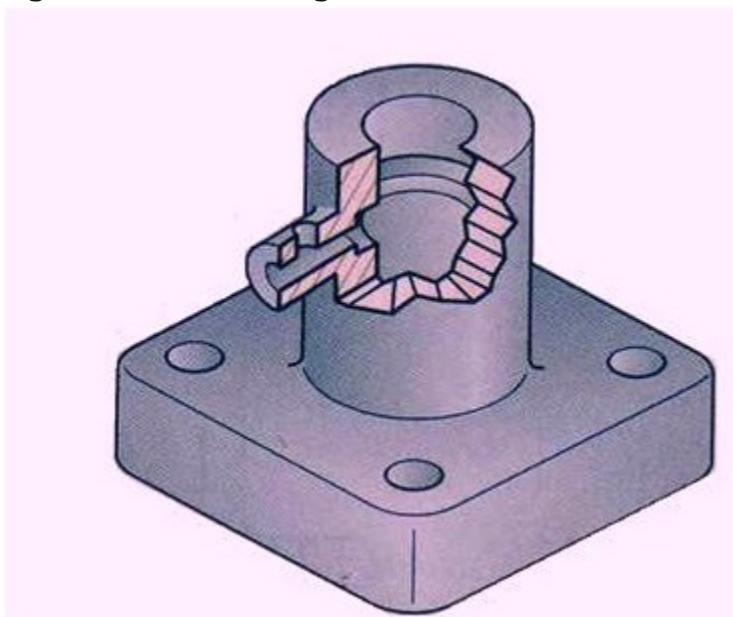

Figure 4. Illustrating a Broken-out Section
- (d) Broken-out section where the section go through part of the object . Example shown in figure 4.